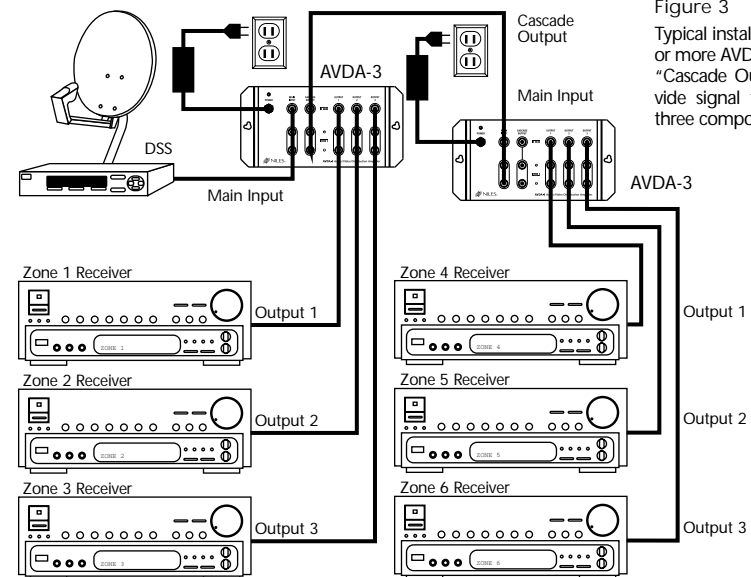

Figure 3
2. Connect the Cascade Output connectors of the first AVDA-3 to the RCA input connectors (left audio, right audio and video) of the additional AVDA-3 (See Figure 3).